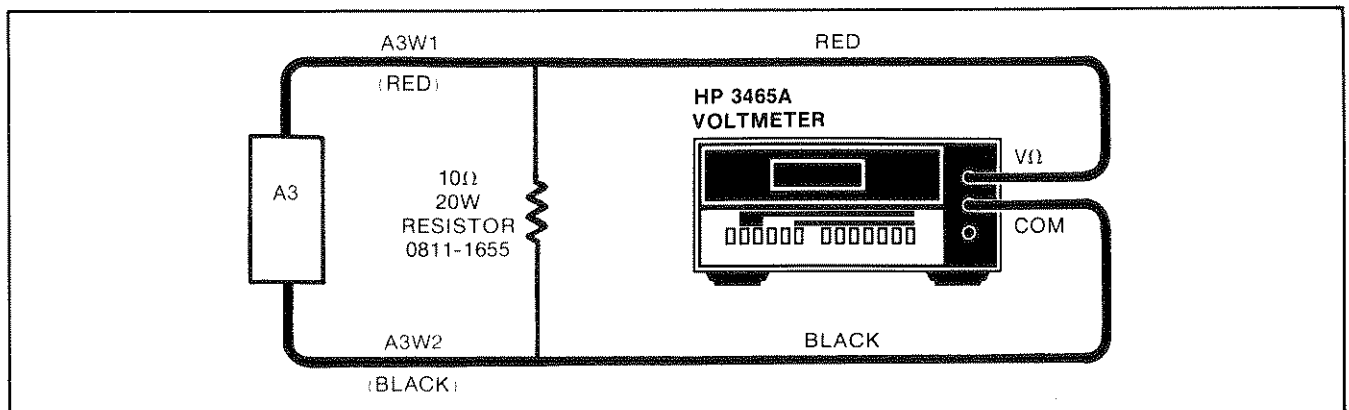

Figure 5-9. Fast Charge Current Adjustment Setup
b. Connect the A3 battery charger to an HP 3465A voltmeter and 10 Ω , 20W resistor as shown in Figure 5-9.